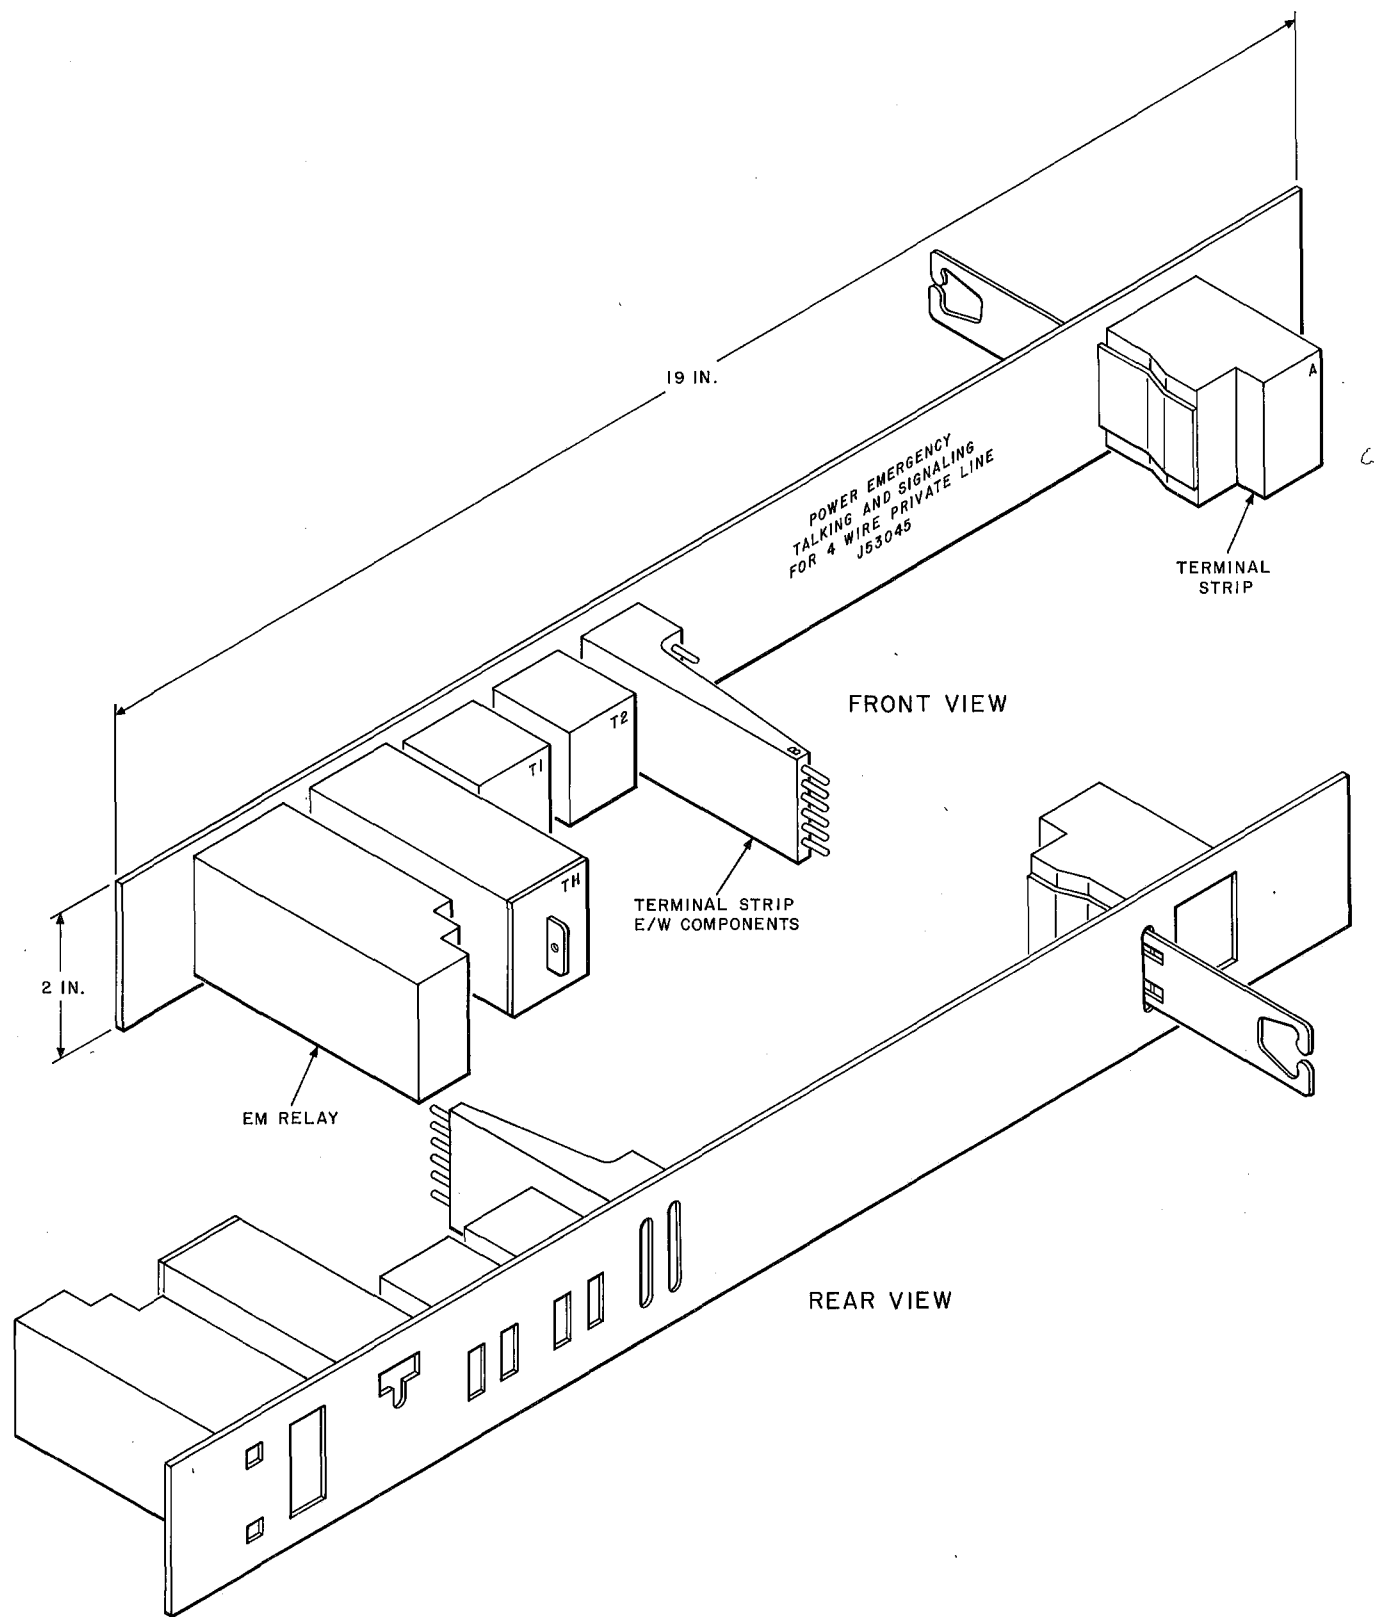

Fig. 10—Emergency Power Talking and Signaling Unit
2.17 This unit (Fig. 10) provides termination to a separate telephone set at customer locations for emergency use in the event of a commercial power failure that renders all station sets out of service. When local power fails, a 500AD telephone set is then connected to the 4-wire transmission facilities and furnished common battery from the central office by a simplex arrangement. Inward voice signaling is provided by using a 107A loudspeaker set also powered by central office common battery. Handset push-to-talk option is available. Certain simplex arrangements cannot be provided when this option is provided (Table B). This unit may be adapted for use with voice signaling and SS-1-type signaling.